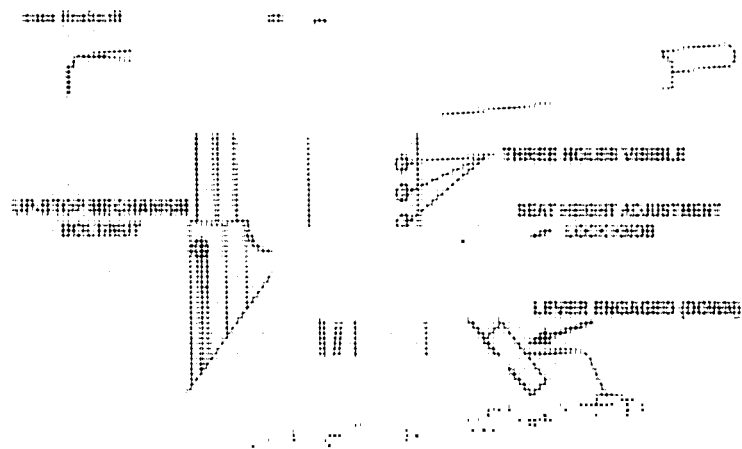

FIGURE 19.
2. If seat is equipped with an up-stop mechanism, remove the limiting bolt and nut. See FIGURE 19. Retain this hardware for use during assembly. If continuing from Repair Procedure 2, this step should already be complete.